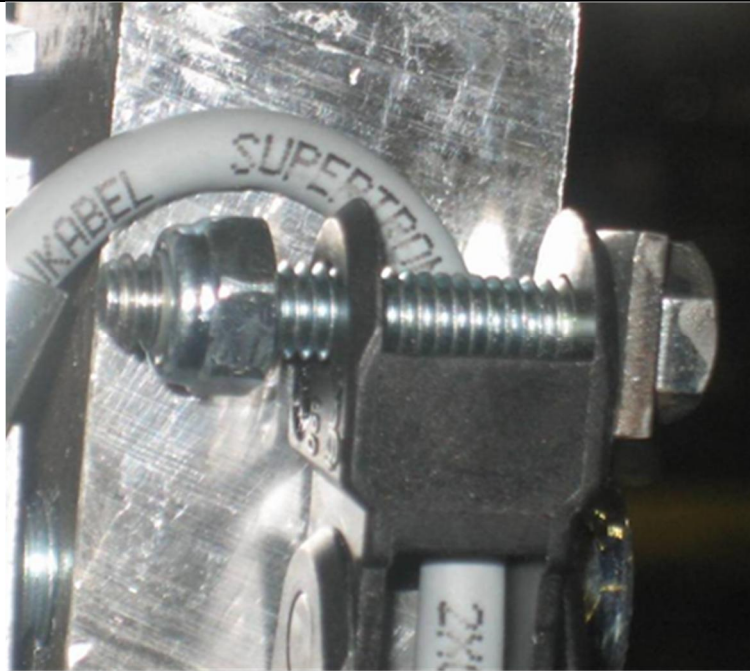

Figure 3
2. Attaching the black plastic chain to the bracket. (See Figure 3). Keep the nylock nut loose from the chain to allow the chain to move and flex freely during travel.